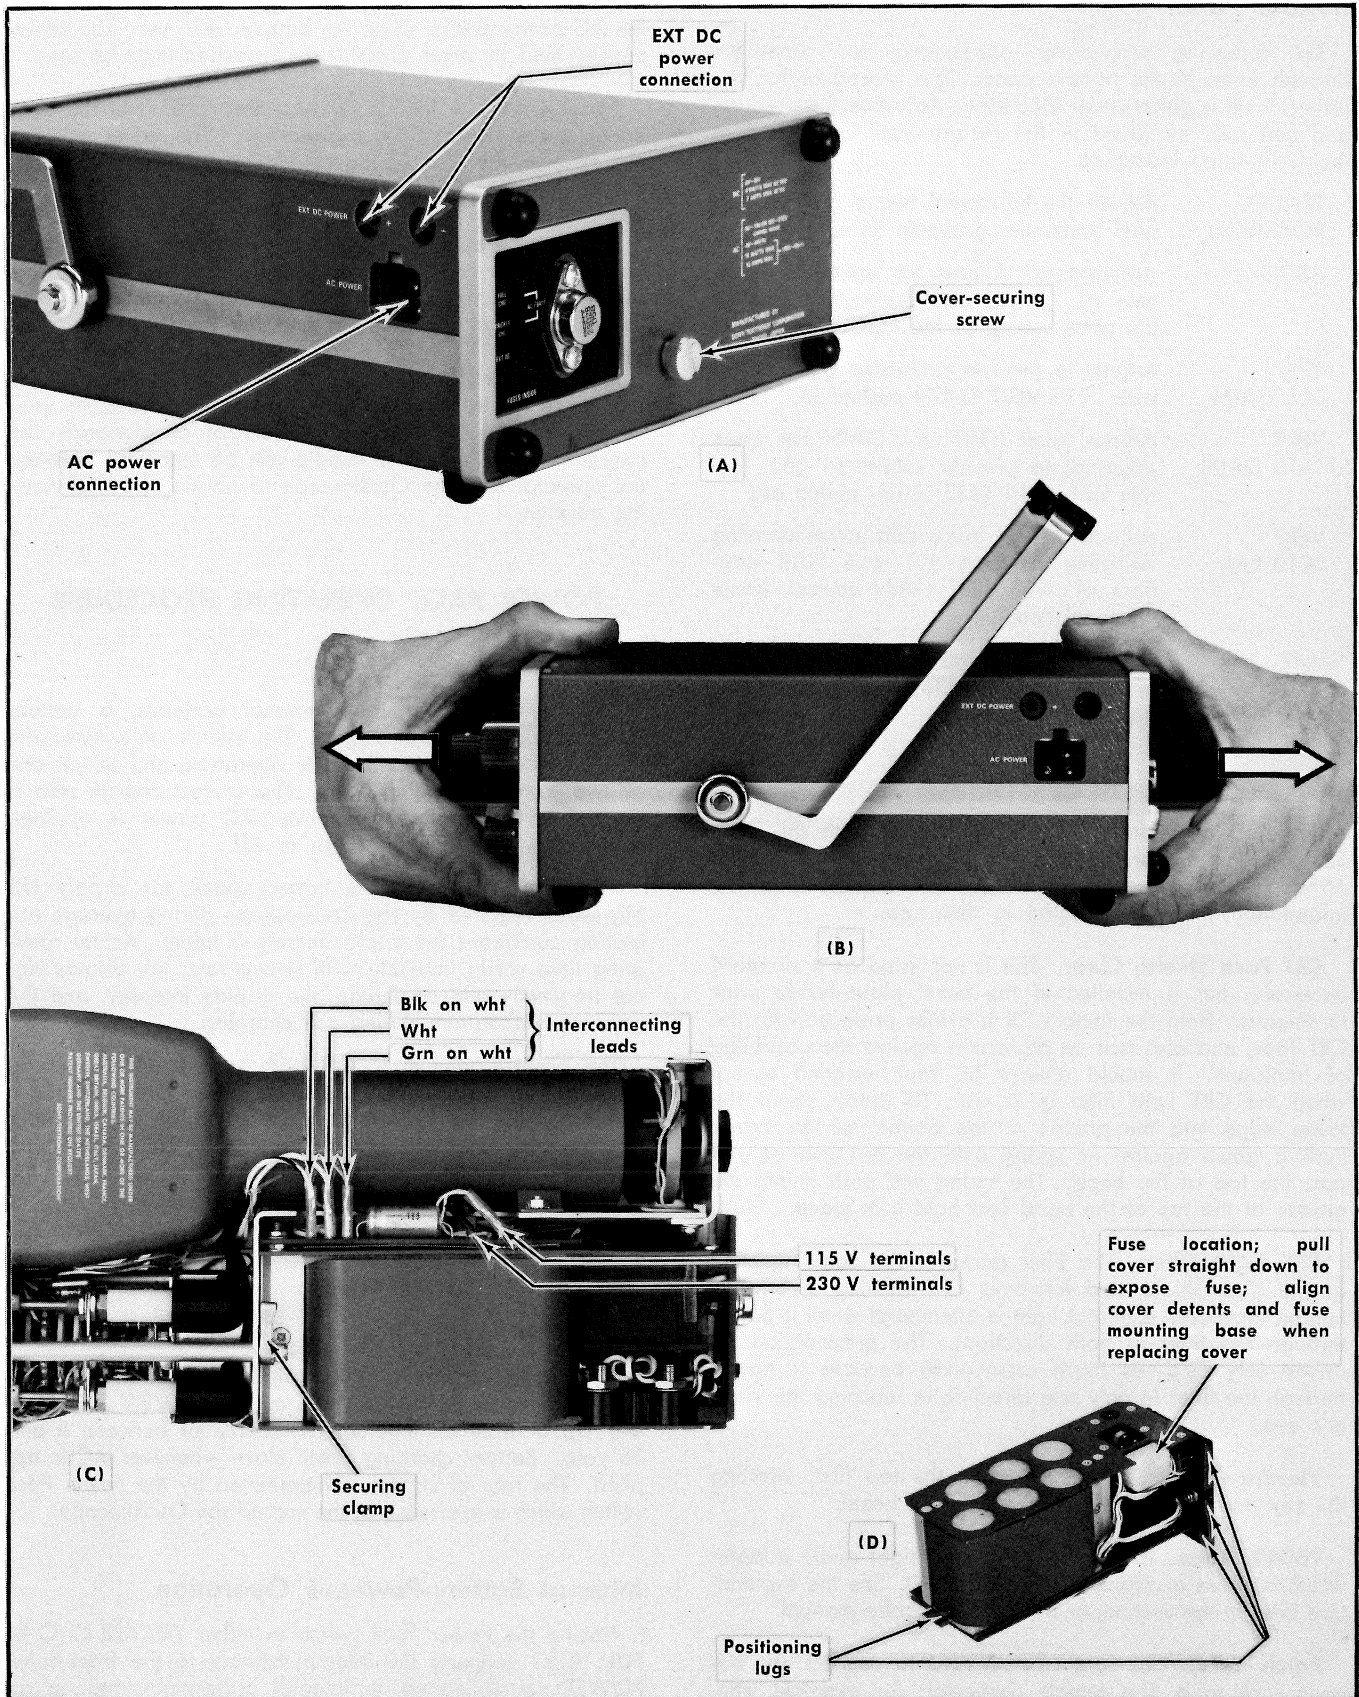
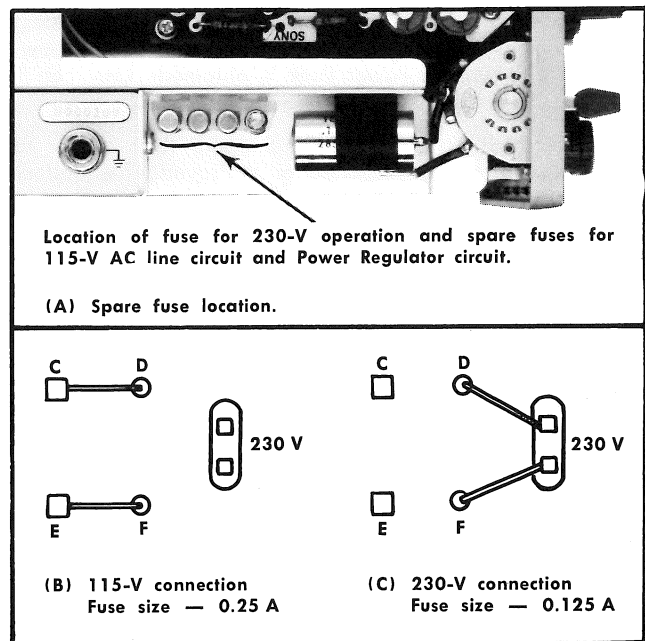

Fig. 2-2. Power Pack removal.
Fig. 2-3. Connections for 115 V and 230 V AC operation.
Remove the cover-securing screw from the back of the case. See Fig. 2-2(A).
Grip the front edge of the Oscilloscope with one hand, and the cover assembly with the other hand as shown in Fig. 2-2(B). Pull the cover assembly off the chassis, maintaining a firm grip on the front of the chassis.
Set the Oscilloscope chassis down on a flat surface. Disconnect the three interconnecting leads and release the Power Pack securing clamp. See Fig. 2-2(C).
115/230 V Connection Changes. Fig. 2-2(C) illustrates the location of the jumper wires and of the fuse. The two possible circuit arrangements, accompanying fuse sizes and the locations of spare fuses are indicated in Fig. 2-3. Reinstall the insulated tubing over the unused AC terminals.
Power Pack Replacement. Replace the Power Pack by reversing the removal procedure, insuring that the wire color code agrees with that written on the terminal mounting. See Fig. 2-2(C). Avoid pinching of fingers at the front panel when the Oscilloscope cover is replaced.